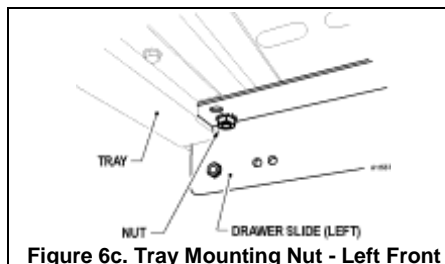
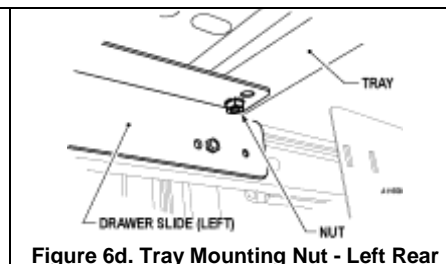

Figure 6c. Tray Mounting Nut - Left Front
Figure 6d. Tray Mounting Nut - Left Rear
3. Remove and save the four (4) nuts located near the corners of underneath the tray. See Figure 6c and Figure 6d. Lift up and forward to remove the tray.